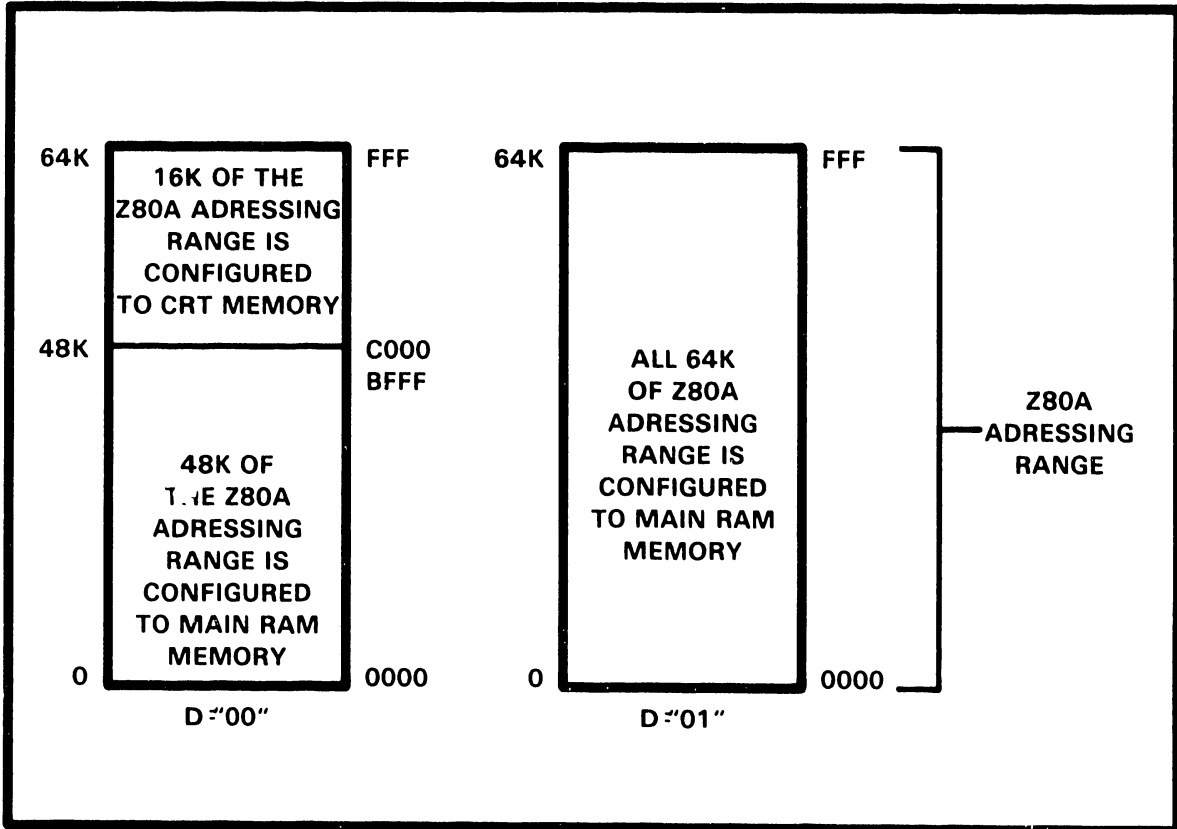

Figure 2-7. Memory Organization
2.3.2.1 Workstation Memory (Figure 2-7)